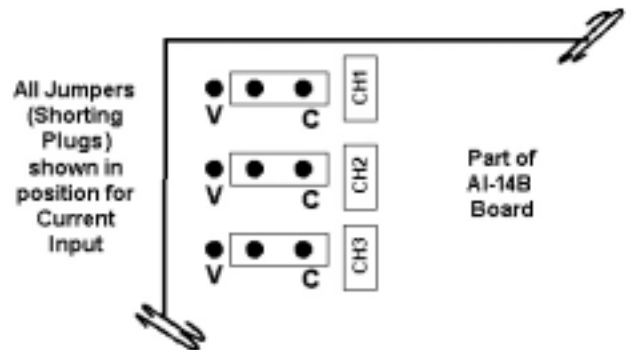

Figure 2. Voltage/Current Selection Jumpers
- a) Determine whether a voltage or current signal will be used for each of the channels of the AI-14B board. Set selection jumpers accordingly. See Figure 2.